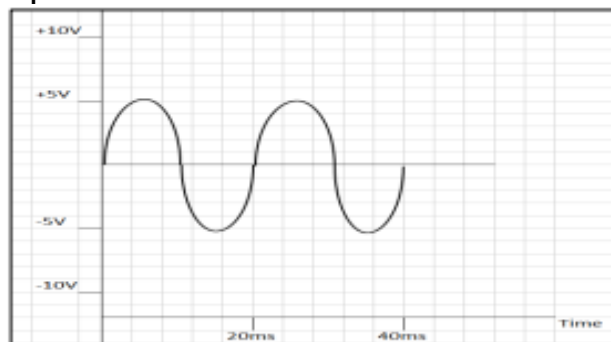

Figure 2
5. By referring to Figure 2 of an AC voltage measured over time, calculate: